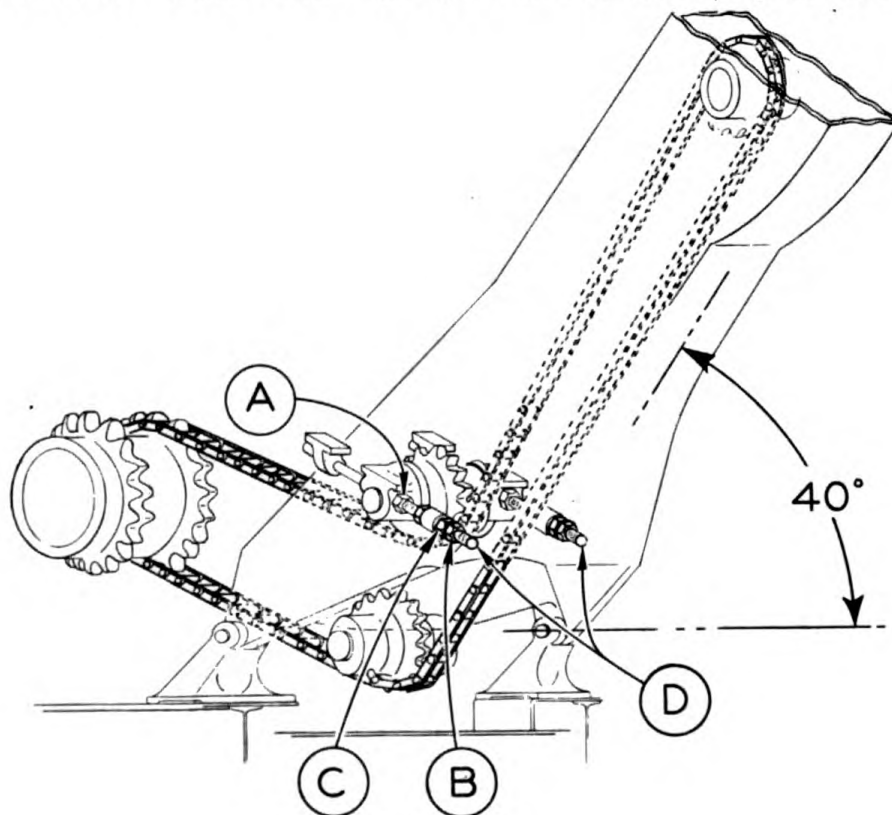

FIGURE 84
## CROWD CHAIN: (Fig. 84)
To operate properly, the crowd chain must be adjusted with a small amount of slack, and while making the adjustment, the boom must be set at an angle of approximately 40 degrees as indicated in Figure 84. To adjust crowd chain, crowd the dipper out almost to the end of the dipper sticks; set the crowd brake (left foot pedal), then lower the dipper to the ground. Crowding the dipper out puts all the slack in the top half of the chain and makes it easier to adjust. Loosen nuts (A) on both adjusting bolts (D). Loosen lock nuts (B) and tighten adjusting nuts (C) on both adjusting bolts to make the chain tighter. Be sure the same amount of adjustment is made on both adjusting bolts (D) so that the idler sprocket will run true in the crowd chain. After the proper adjustment is made, tighten nuts (A) and (B). Do not run the chain too tight. CAUTION: Never tighten crowd chain with the boom in horizontal position.